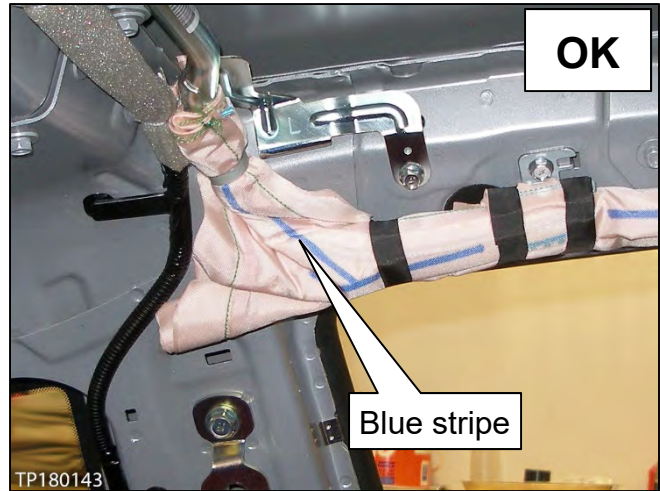

Figure 40
- See Figure 40, 41, and 42 for examples of OK and NG inspection results.
35. Untwist the curtain until all of the blue line is visible or not wrapped around the backside of the curtain (see page 18, Figure 40).
36. Secure the driver curtain air bag module with four (4) new bolts (see Parts Information).